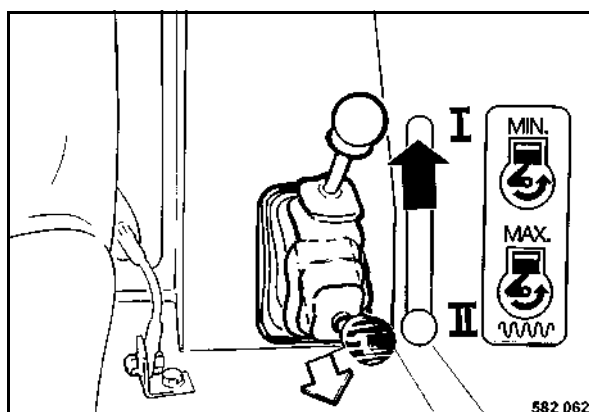

Fig. 33
- Once the engine runs correctly reduce the engine speed (Fig. 33) to position "I", idle speed.